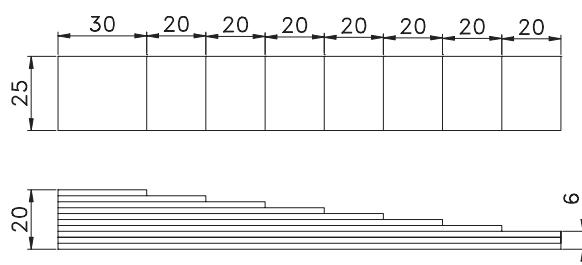

Fig B-1. Formation of a step-wedge from 2.0 mm aluminium strips glued together
- Cut to lengths of 30, 50, 70, 90, 110, 130, 150, 170, 170, and 170 mm. When glued together as shown, they will form a 20mm high stepwedge. **See Fig B-1**